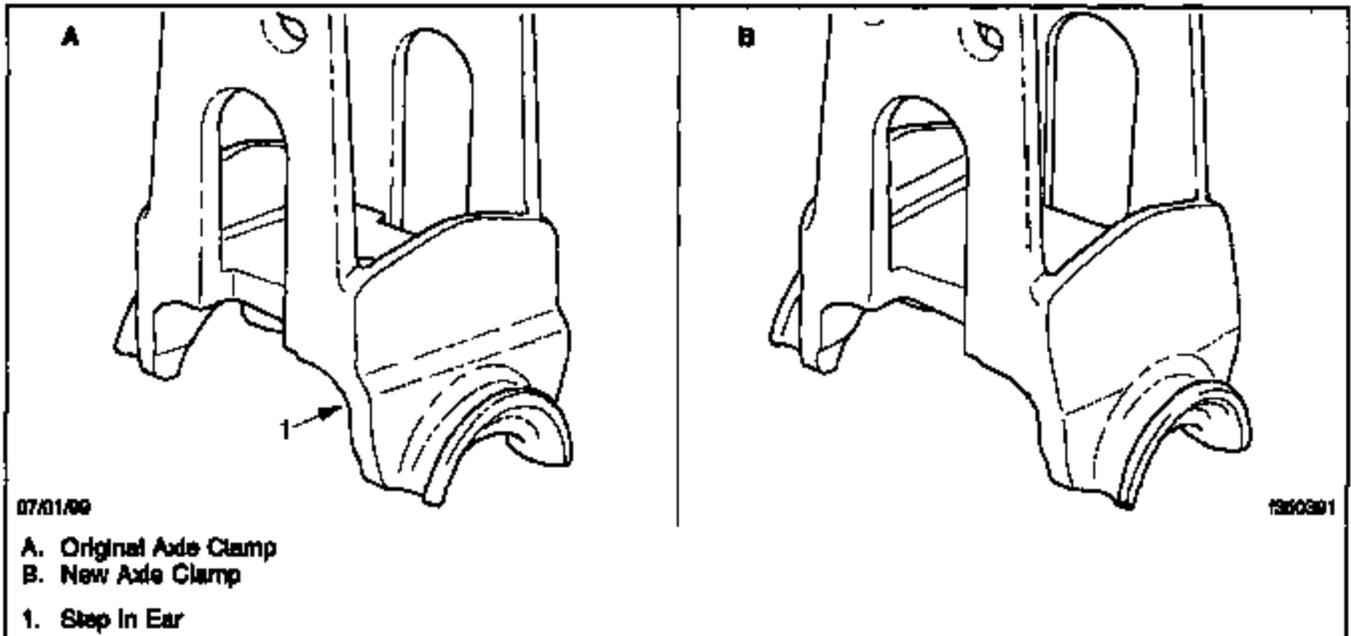

Fig. 3, Upper Axle Clamps
- NOTE:** Confirm that you are installing the correct upper axle clamps before continuing. You are able to visually identify the new upper axle clamp because the step has been removed from the area directly above the ears. See Fig. 3. Confirm that you have the correct new part number using Table 10 for Freightliner products and Table 11 for Sterling products.